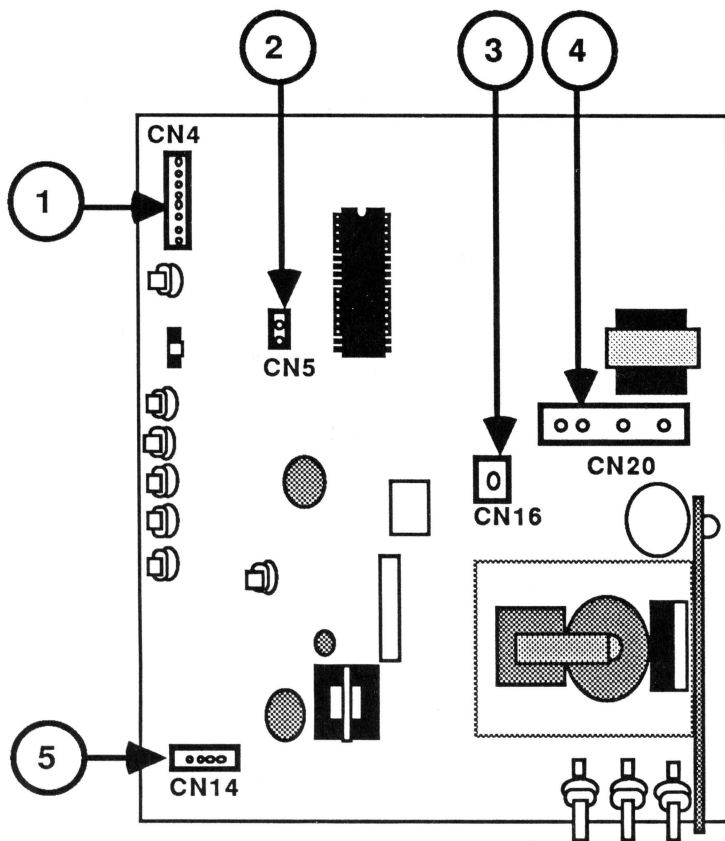

FIGURE 13
- a) CN4 -- Figure 13, #1 (the connector from the control PCB at the front of the monitor).
- b) CN5 -- Figure 13, #2 (the connector from the white only switch at the front of the monitor).
- c) CN16 -- Figure 13, #3 (the black wire coming off the silver ground strap surrounding the CRT).
- d) CN20 -- Figure 13, #4 (the large connector coming off the CRT neck).
- e) CN14 -- Figure 13, #5 (the connector with four colored wires that are soldered at the other end to the CRT socket board).